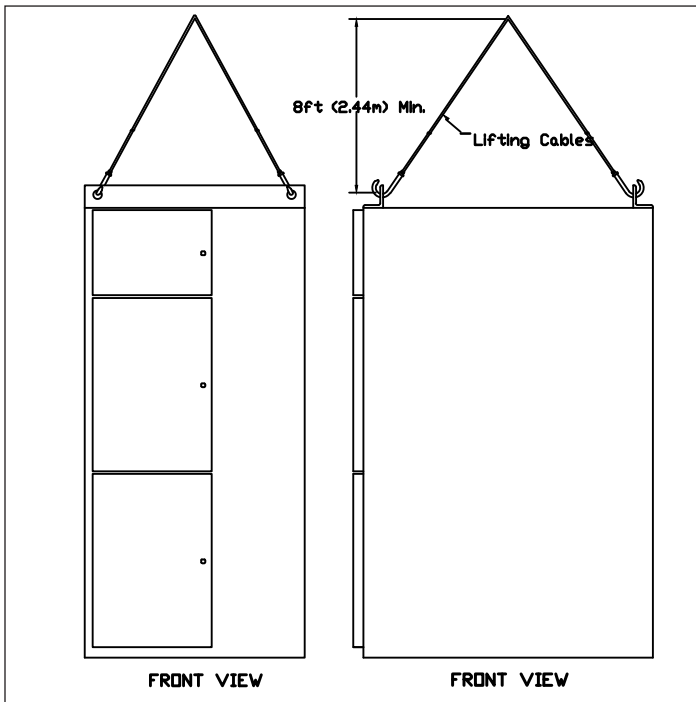

Figure 10. Lifting Angles for MEF Metal-Enclosed Front Accessible Switchgear.
- Figure 10: MEF Metal-Enclosed Front Accessible Switchgear